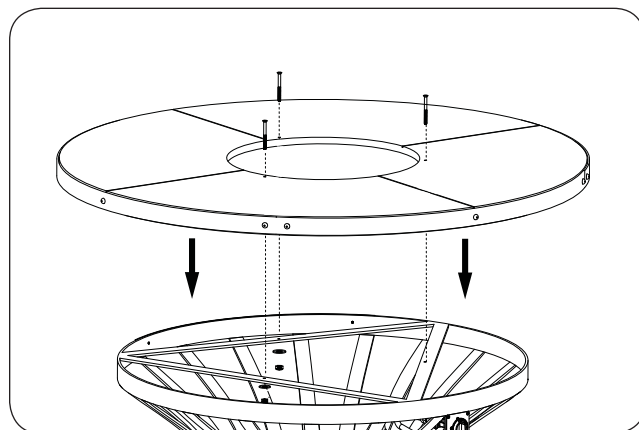

Fig. 21-3 Place top and fasten
4. **CAREFULLY** place the top on the unit, ensuring that the holes in the top piece align with the holes found in the bracket below (see Fig. 21-3).
5. Use a Phillips screwdriver and the supplied bolts (3), nuts (3), and washers (3) to fasten the top to the bracket as shown in Fig. 21-3.